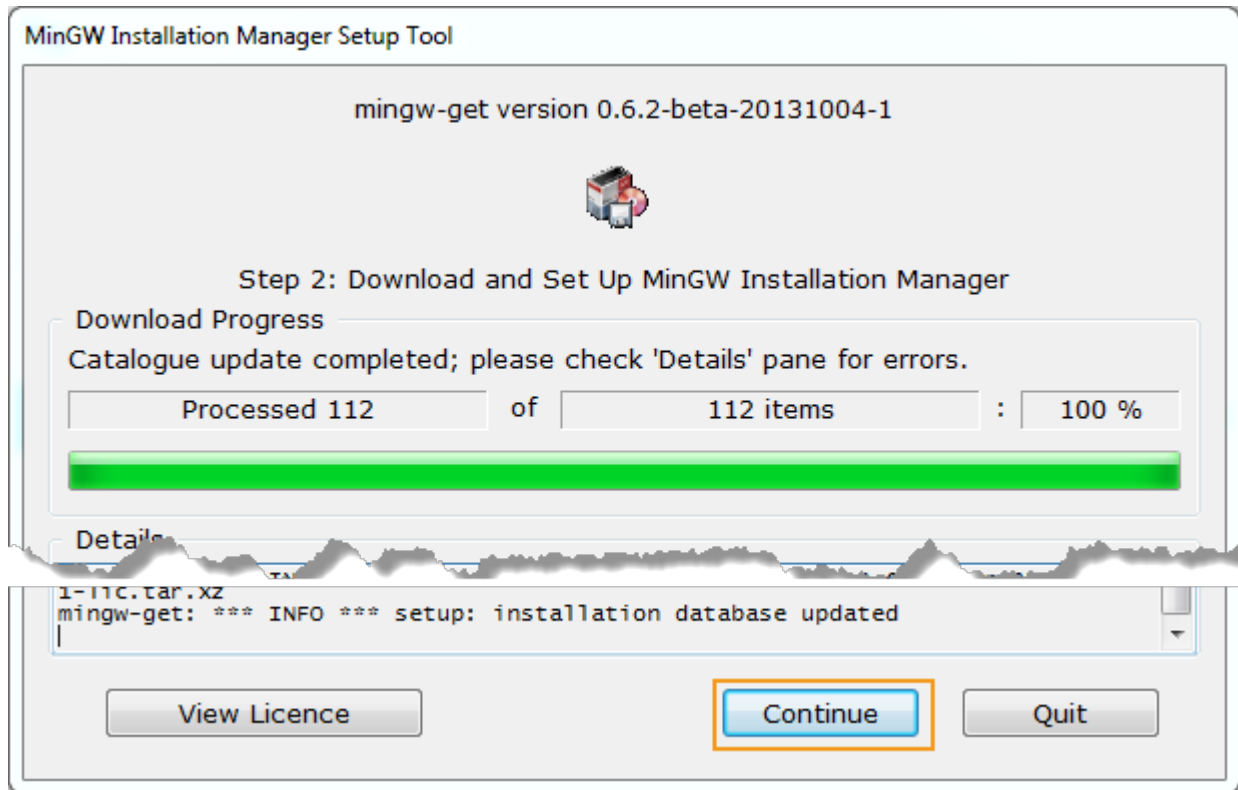

Figure 3. Download and set up MinGW Installation Manager
- 4) Click **Continue** on the MinGW Installation Manager Setup Tool after the download is complete (see Figure 3).